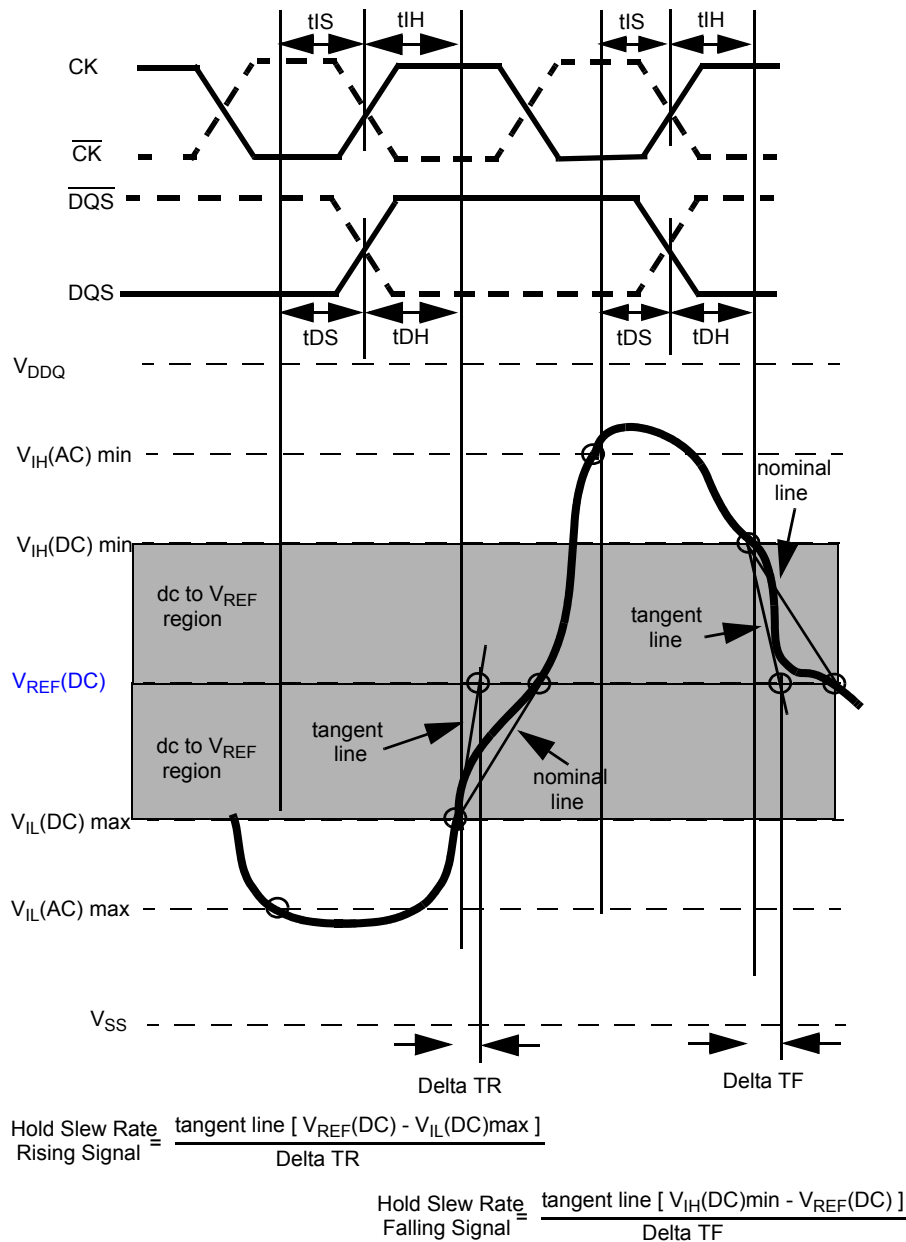

Figure 24 - Illustration of tangent line for hold time  $t_{DH}$  (for DQ with respect to strobe) and  $t_{IH}$  (for ADD/CMD with respect to clock)
Hold (tIH) nominal slew rate for a rising signal is defined as the slew rate between the last crossing of VIL(DC)max and the first crossing of VREF(DC). Hold (tIH) nominal slew rate for a falling signal is defined as the slew rate between the last crossing of VIH(DC)min and the first crossing of VREF(DC). If the actual signal is always later than the nominal slew rate line between shaded 'dc to VREF(DC) region', use nominal slew rate for derating value (see Figure 24). If the actual signal is earlier than the nominal slew rate line anywhere between shaded 'dc to VREF(DC) region', the slew rate of a tangent line to the actual signal from the dc level to VREF(DC) level is used for derating value (see Figure 26).